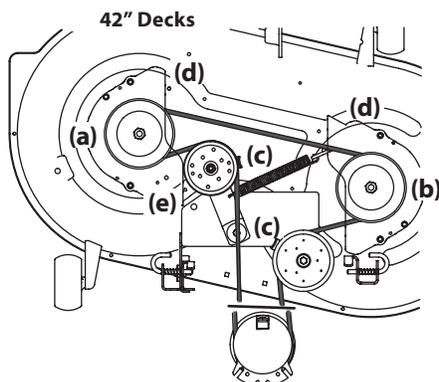
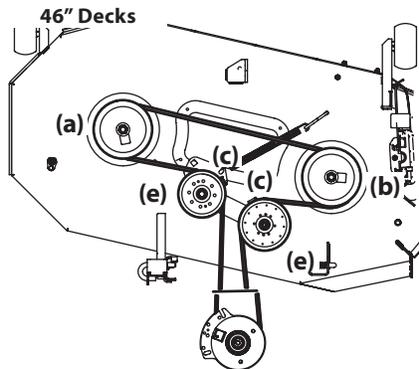
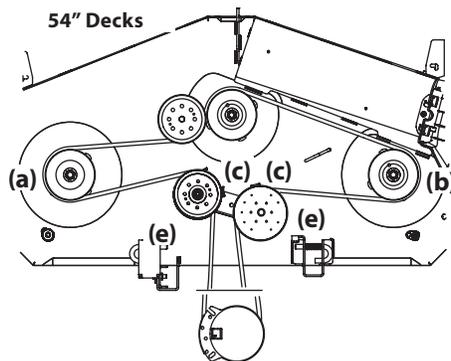

Figure 4-15
Figure 4-16
Figure 4-17
2. Loosen, but do not remove the hardware on the right (a) and left idler pulley (b). Refer to Figure 4-15 for 42" decks, Figure 4-16 for 46" decks and Figure 4-17 for 54" decks.